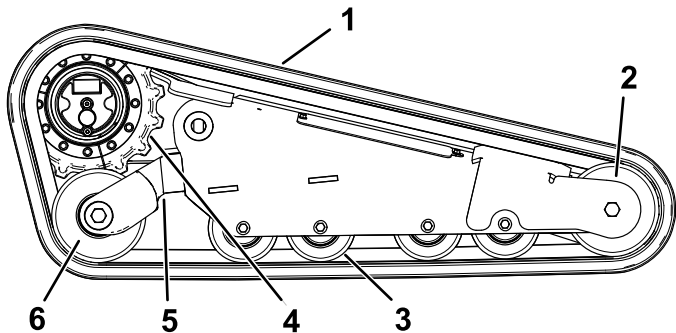

Figure 62
**Important:** Ensure that you fully clean the road wheels, the front wheel, and the drive sprocket (Figure 62). The road wheels should rotate freely when clean.